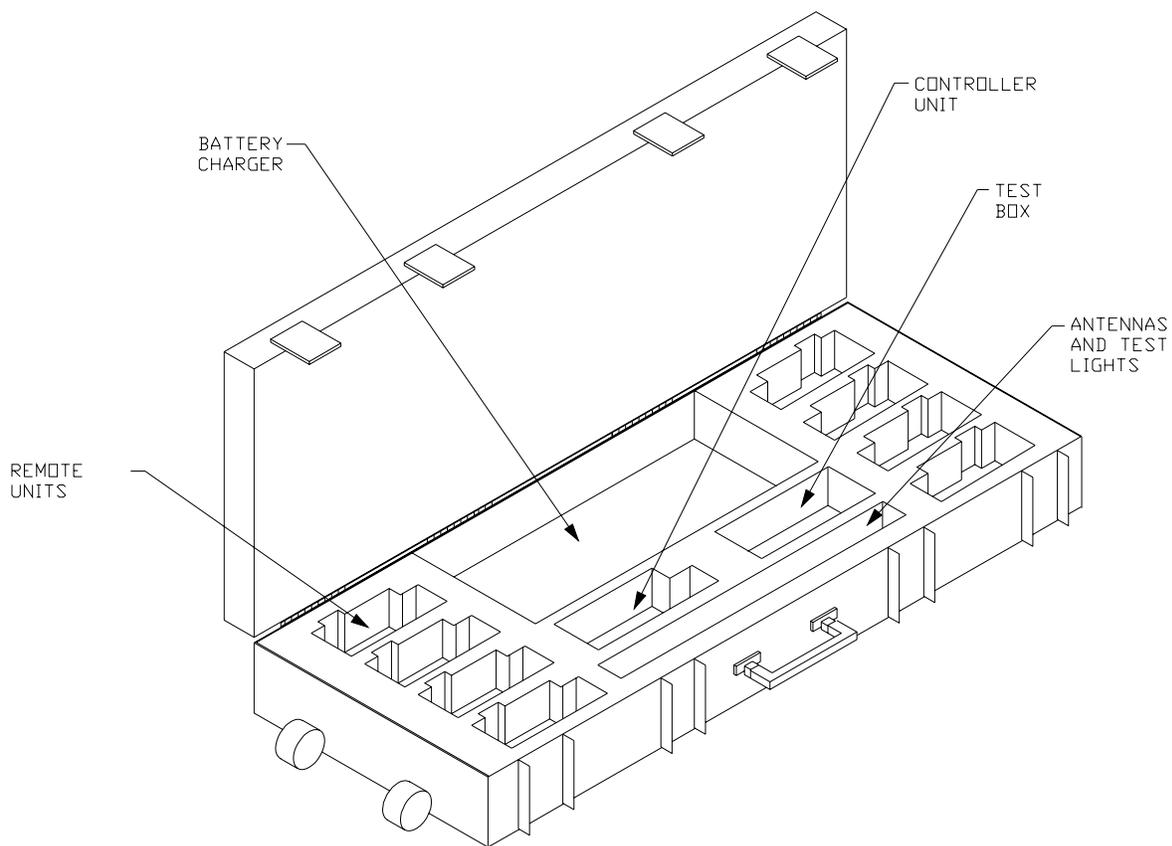

Figure 2-10 Carrying Case.
2.10.1. Figure 2-10. Provides the physical size of the Carrying Case and a view of the storage location for System assemblies in the Carrying Case. The Carrying Case has a pressure equalization vent near the handle. The vent should be opened prior to opening the Carrying Case. The vent should be kept closed during storage and shipment.